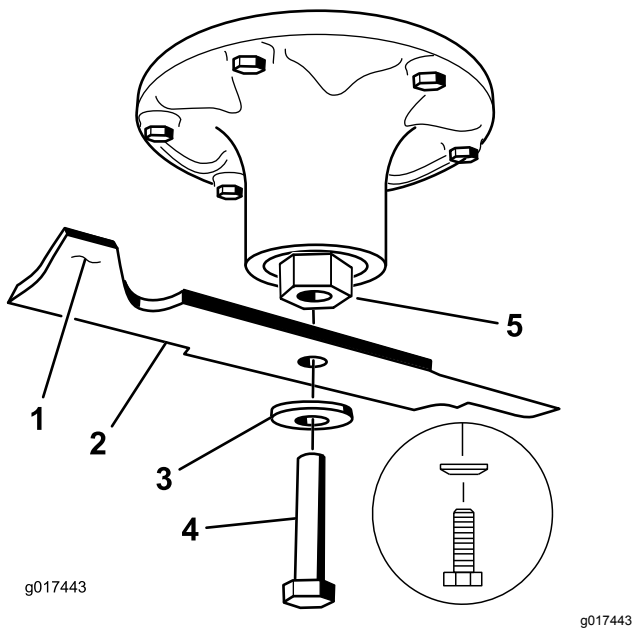

Figure 108
2. Remove the blade bolt, curved washer, and blade from the spindle shaft (Figure 108).
1. Install the blade onto the spindle shaft (Figure 108).
2. Install the curved washer and blade bolt (Figure 108).
3. If the blade is not balanced, file some metal off the end of the sail area only (Figure 108).